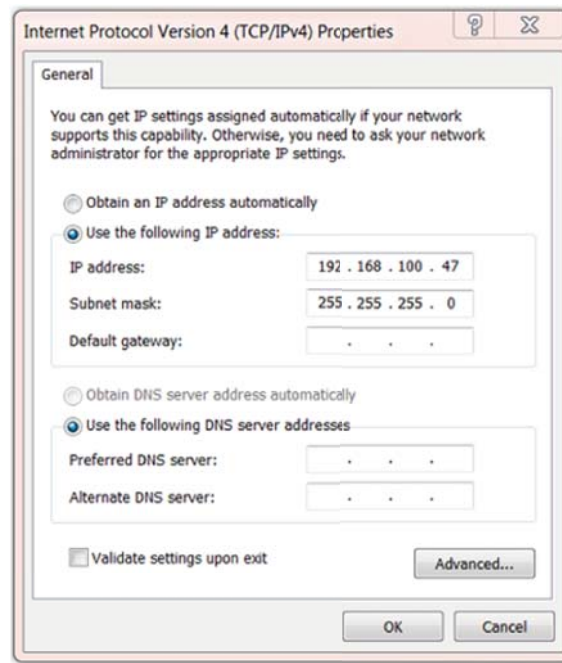

Figure 12. IP Address Setting
**Notes:** You must manually set the IP address: 192.168.100.47 and Subnet mask: 255.255.255.0 in the PC before connecting it to the KITRADAR2001EVM. Otherwise, the Radar Control Panel cannot recognize the KITRADAR2001EVM. See Figure 12.